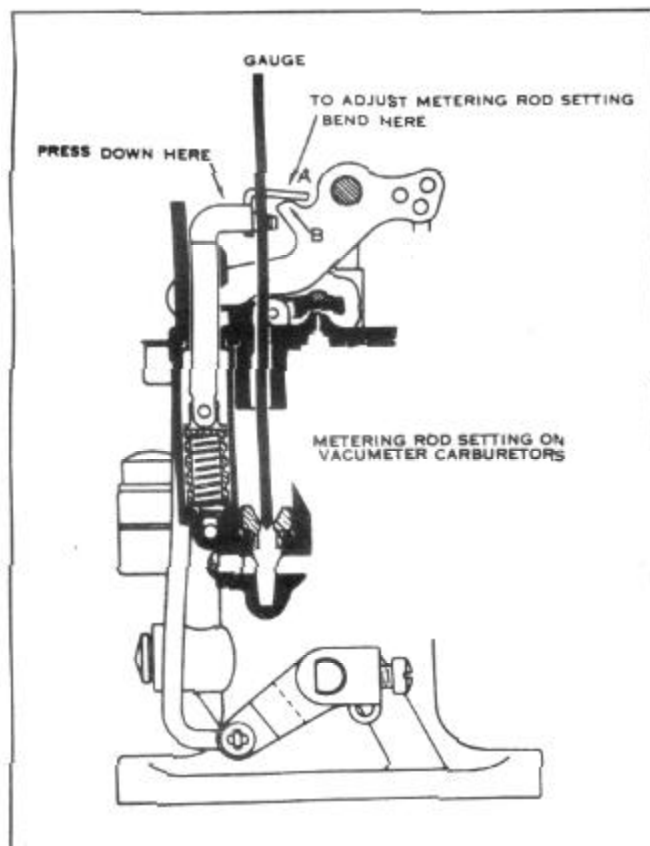

FIGURE 4
4. Insert metering rod gauge, J-1265 (Carter No. T-109-102). Hold gauge vertical and be sure gauge is seated in metering rod jet, Figure 4.
6. Adjust by bending lip on piston link at (A).
2. Clearance between percolator rocker arm lip and pump arm should be .00511 to .015" at (B) Figures 4 and 6.
3. Adjust by bending the rocker arm at (A) Figure 4, using Bending Tool S-1389 to obtain this clearance.